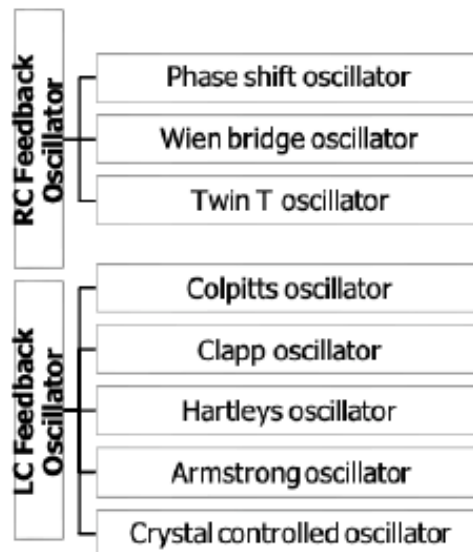

Figure 2 : Feedback oscillator classification
Figure 2 below show the classification feedback oscillator
1. Refer to FIG2 of the OP-AMP-OSC-02 experiment module.